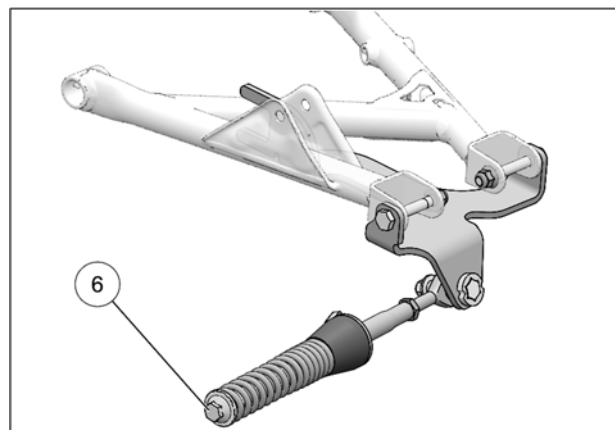

Fig. 11
- Verify that spring assembly bolt (6) is tightened to the recommended torque specification: $75 \text{ N}\cdot\text{m}$ [$55 \text{ lb}\cdot\text{ft}$]. Refer to Fig. 11